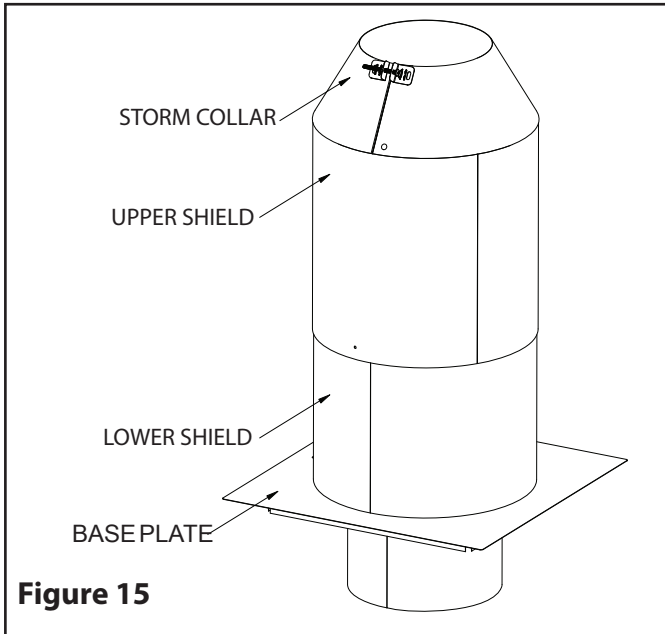
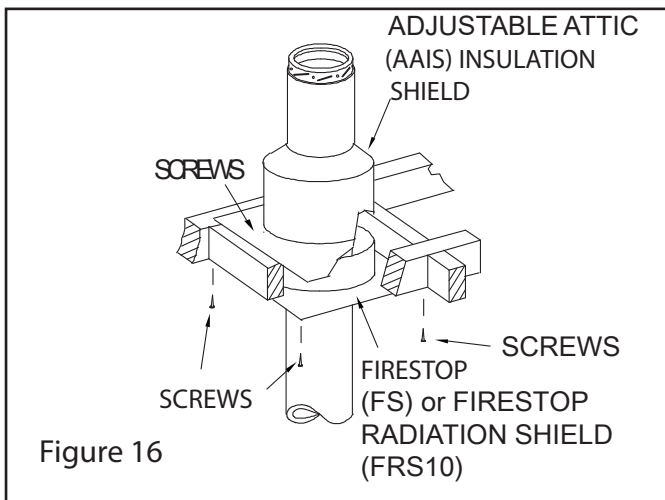

Figure 15
Figure 16
Step 5.1D: At the attic level, install a Firestop (FS or FRS10) on underside of frame at ceiling. The Attic Radiation Shield (AAIS) must be installed on its baseplate atop the frame from above. Secure to framing with 1" wood screws. (see **Figure 15**).
The Adjustable Attic Insulation Shield (**Figure 16**) is designed to keep insulation materials from coming into contact with the chimney. Adjustable from 12" to 22", it must meet the insulation level requirement of the National Building Code. Attic insulation must be 2" below the storm collar. Minimum overlap of 1" is required prior to securing the 2 halves (Upper and Lower Shields) together. **See Figure 15**.